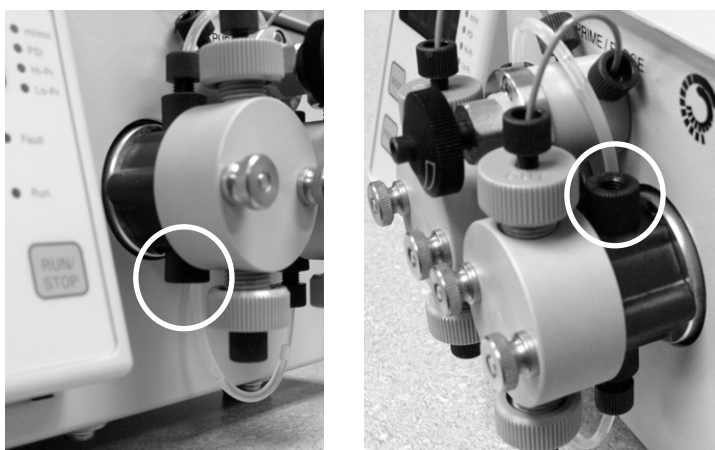

Figure 2-1. Self-flush inlet (left) and outlet (right) connections (circled)
1. Connect one length of 1/8" OD tubing to the bottom (inlet) self-flush port on the left pump head (see Figure 2-1 left panel). The fitting for the connection is a 1/4-28 nut and ferrule. Make sure the fitting is finger-tight so the connection does not leak.
2. In similar fashion, connect another length of 1/8" OD tubing to the top (outlet) self-flush port on the right pump head (see Figure 2.1 right panel). Note that the two pump heads are "daisy-chained" together with a pre-installed length of tubing that connects the top outlet flush port on the left head to the bottom inlet flush port on the right head.